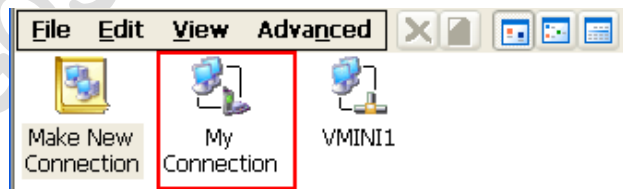

Figure 4-25
26. Double-click the **"My Connection"** icon in Figure 4-25, to enter the dialup interface as shown below. Then click the **"Connect"** button.